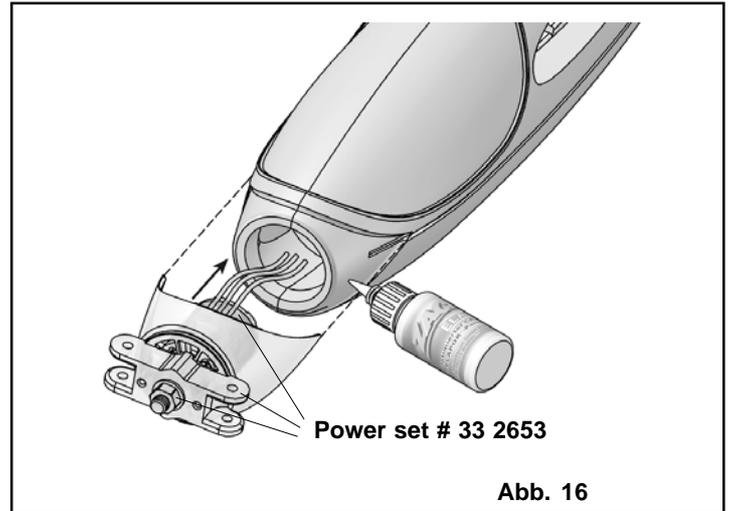

Abb. 16
3.7.2 Completing the power-glider version, Figs. 16 + 17